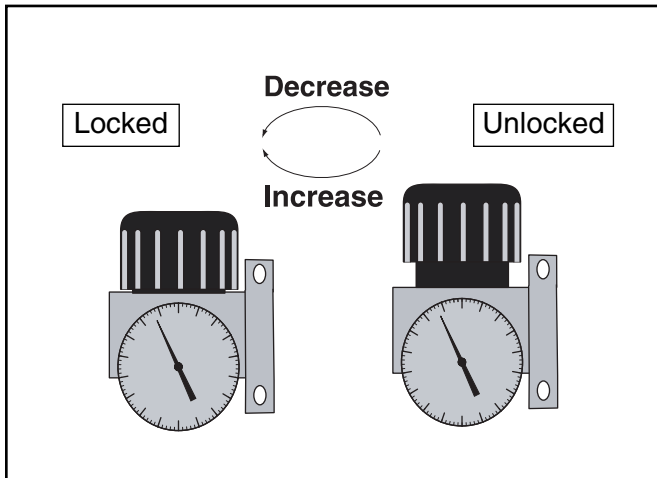

Figure 3. Pressure adjustment.
1. When the air tank has reached operating pressure, pull the regulator knob on the Model H3259 up to unlock it (**Figure 3**).
2. Turn the knob clockwise to increase the pressure and counter-clockwise to decrease the pressure (**Figure 3**). The maximum pressure for this regulator is 150 PSI. DO NOT exceed this maximum setting.
3. Once the desired PSI level is set, press the knob back down into the locked position (**Figure 3**).